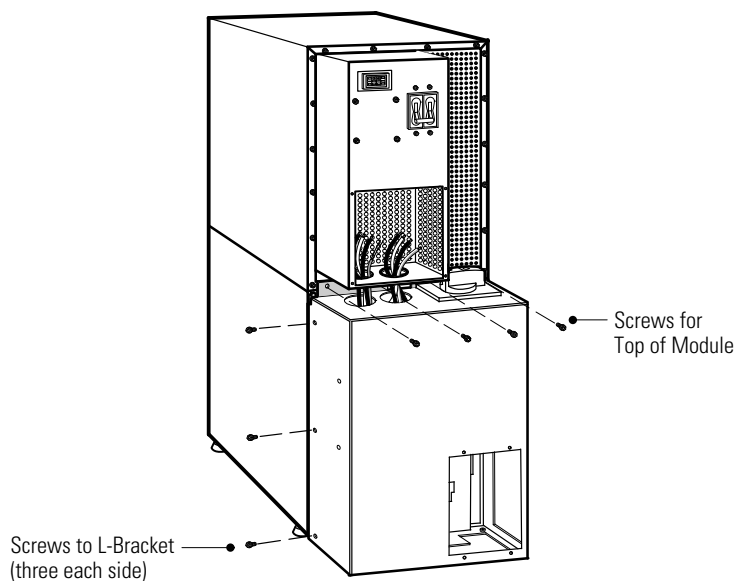

Figure 17. Securing the MBM or PDM (MBM Shown)
7. Secure the sides of the module to the L-brackets using six screws (see Figure 17).